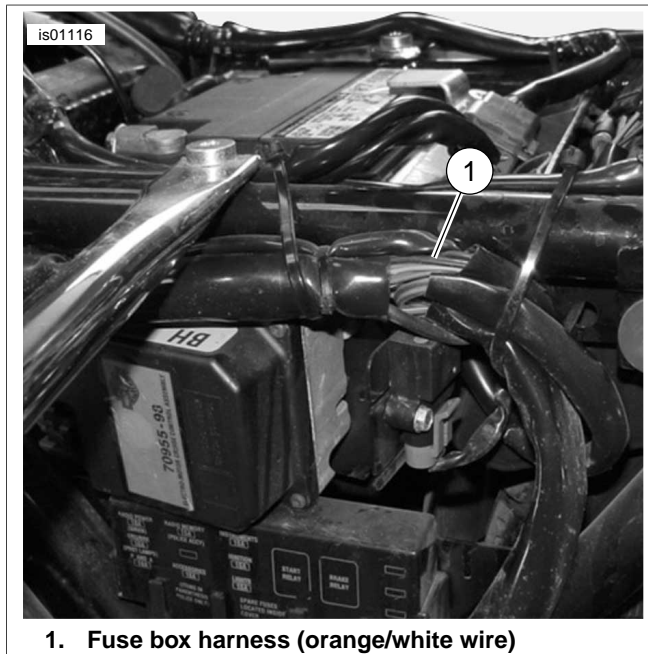

Figure 12. Fuse Box Harness Behind Left-Hand Side Cover, 2003 or Earlier Touring Models (FLHTCUI Shown)
- See Figure 12. Carefully slice open an area of the main harness wrap inside the electrical side cover at an accessible point, and cut an orange/white main harness power lead.